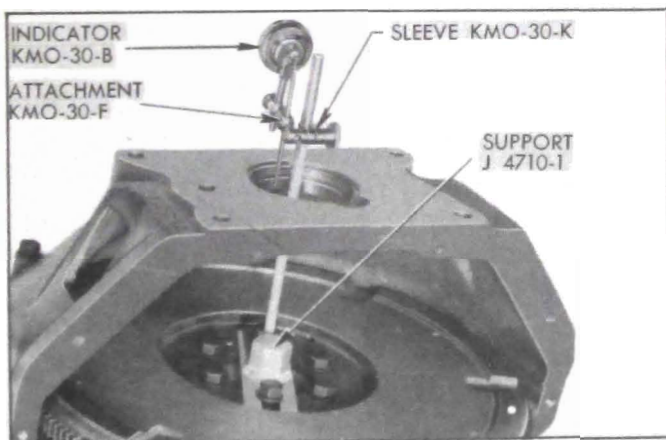

Figure 4-27—Checking Alignment of Housing at Pilot Hole
2. Attach Indicator Support J 4710-1 to flywheel with two flywheel bolts. Mount Dial Indicator KMO 30-B and Hole Attachment KMO 30-F on pilot with Sleeve KMO 30-K. Adjust ball end of hole attachment to bear against side of pilot hole in flywheel housing. See figure 4-27.
4. Install dial indicator as shown in figure 4-27, and check run-out at pilot hole in housing.